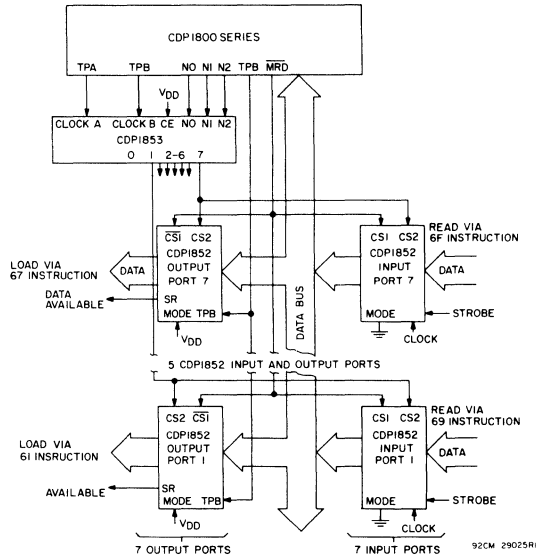
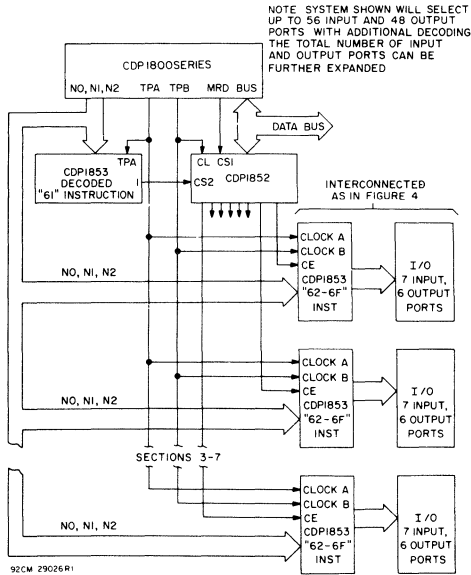

Fig. 5 - N-bit decoder in a one-level I/O system
Fig. 6 - Two-level I/O using CDP1853 and CDP1852.
When CHIP ENABLE (CE) is high, the selected output will be true (high) from the trailing edge of CLOCK A (high-to-low transition) to the trailing edge of CLOCK B (high-to-low transition). All outputs will be low when the device is not selected (CE = 0) and during conditions of CLOCK A and CLOCK B as shown in Figure 2 when used with the 1800-series microprocessor. The CDP1853/3 inputs N0, N1, N2, CLOCK A, and CLOCK B are connected to outputs N0, N1, N2, TPA, and TPB respectively, when used to decode I/O commands as shown in Figure 5. The CHIP ENABLE (CE) input provides the capability for multiple levels of decoding as shown in Figure 6.